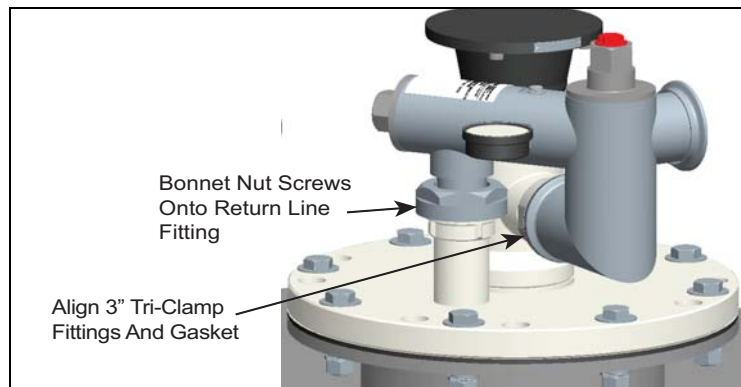

Figure 10. Manifold's Pump Return Line And Discharge Line Connections To Pump
4. Holding the DEF Valve Manifold securely, place the Pressure Relief Flange onto the Return Pipe Fitting flange and screw the bonnet nut onto the return pipe fitting, but do not fully tighten at this time. Align the Check Valve Manifold Inlet Flange of the Manifold with the RJ DEF Pump Discharge Fitting (see Figure 10).